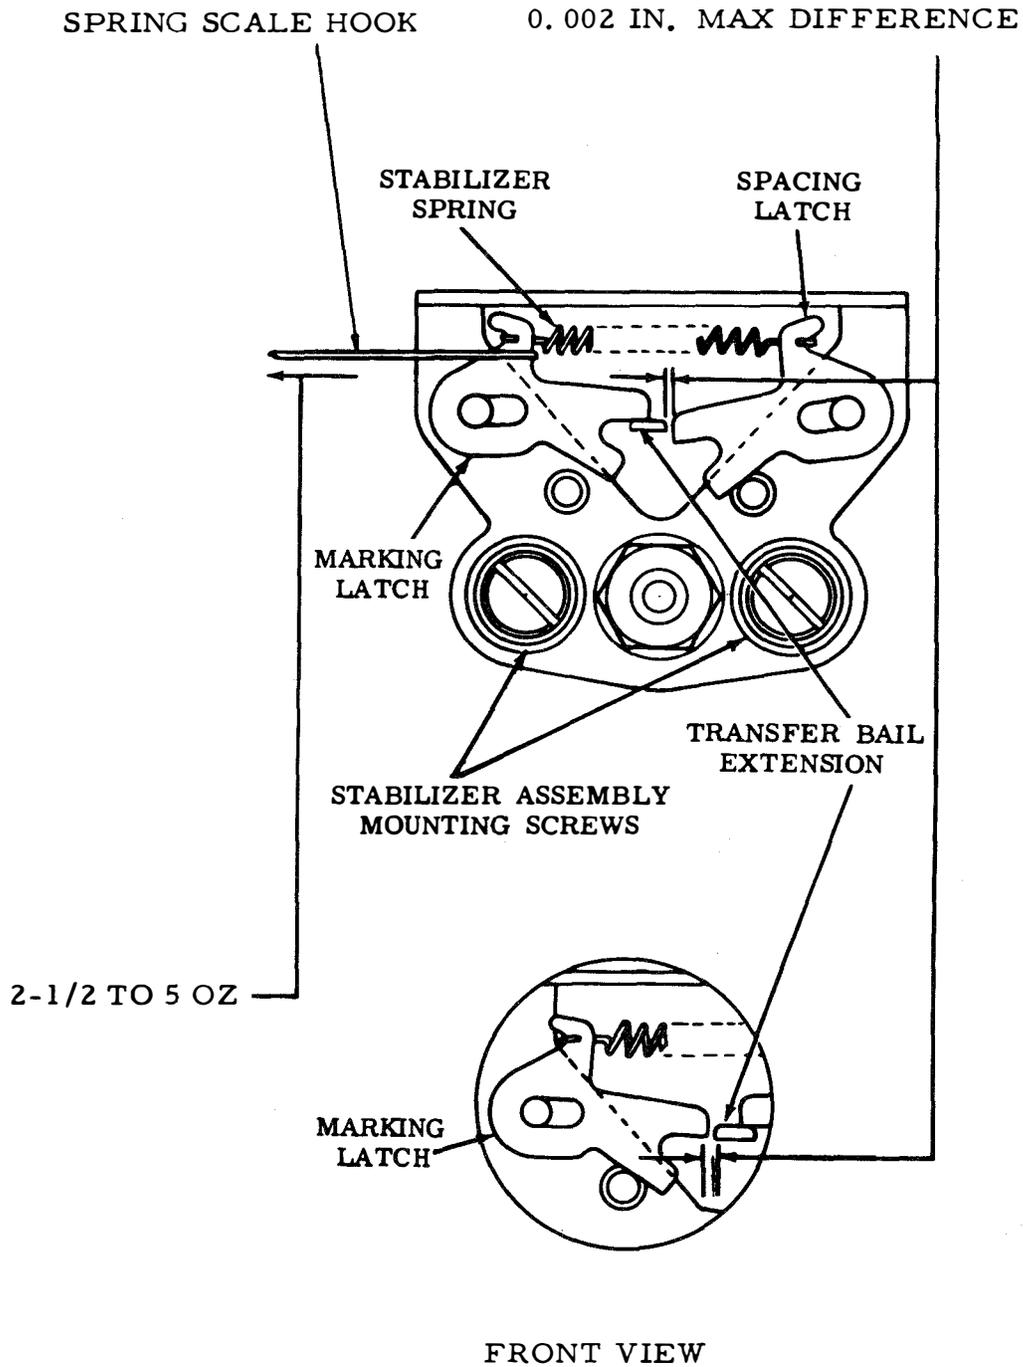

Figure 6-29. Transfer Bail Stabilizer and Stabilizer Spring
(a) Refer to figure 6-29.
5. To adjust, loosen two contact box mounting screws to point of friction tightness. Refer to figure 6-29.